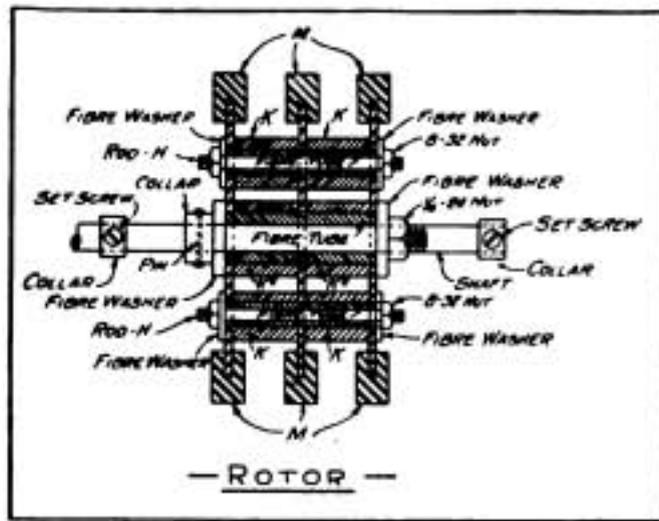

Fig. 9. Third Prize Article
ments in place with the two rods, H, and place the washers, K and K-2, in their respective places as per the assembled diagram (Fig. 9). Now take a disc, C, and put one separator, F, on each side; then place the six (G) rods in their respective holes. Place the foregoing parts next to the rotor segments and then insert three separators, E. Repeat this, beginning with a rotor segment until the third rotor segment is in place. Next put the pin in the collar and rivet it tight (Fig. 9); then put the end disc, D, on, after which the nuts and washers for the six rods are placed at this end. Tighten the nut on the other end of the shaft. Now put one of the collars on the (B) disc end of the shaft and fasten it so that the